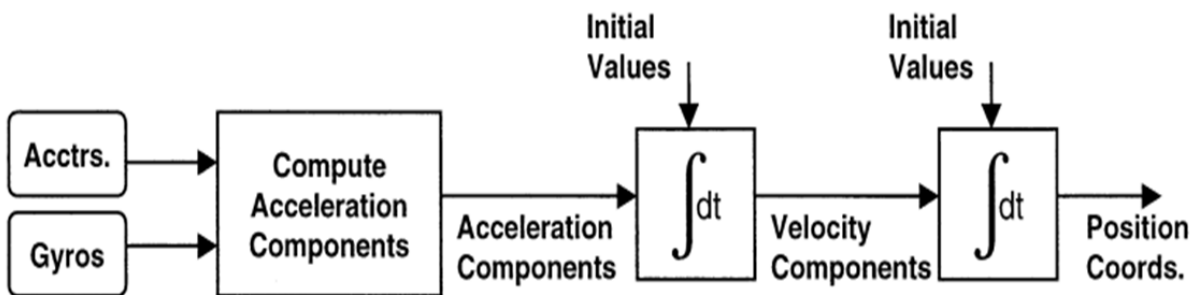

Figure 1
Q.29. Figure 1, shows the GPS spherical ranging , explain the following ;